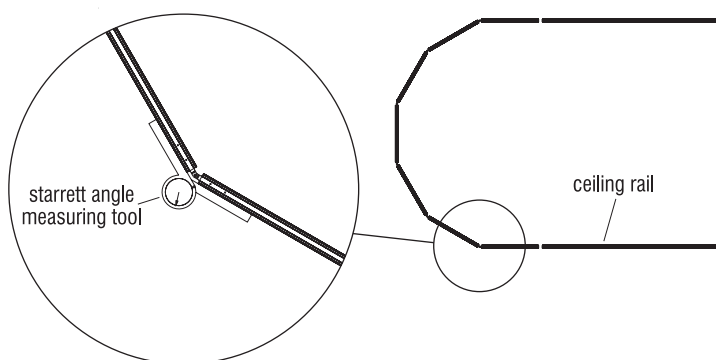

Figure 9 - Starrett Angle Measuring Tool
27. Using a starrett angle measuring tool, measure the angle between each pane of glass. This device will produce the angle at which to set the power miter box and aid the installation of trim (Figure 9).